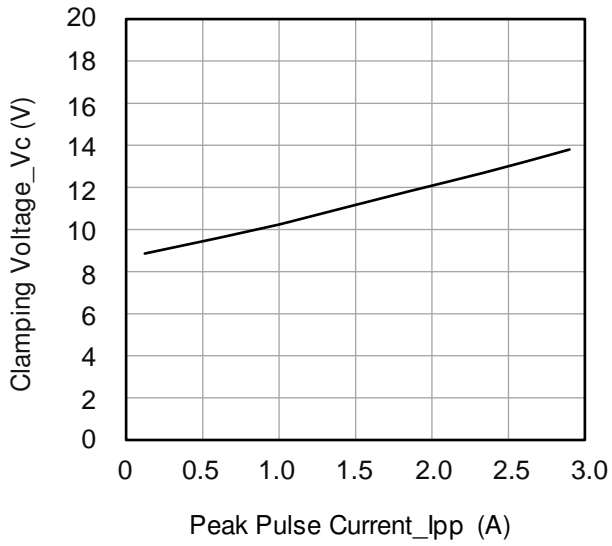

Fig 3 .Clamping Voltage vs. Peak Pulse Current
- For test procedure see Figures 3 and 4.